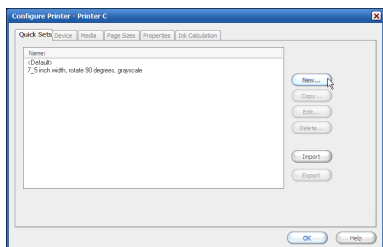

Figure 13—Quick Sets New
2. Click the **Quick Sets** tab, then **New** (see Figure 13). This opens the Edit Quick Set dialog.